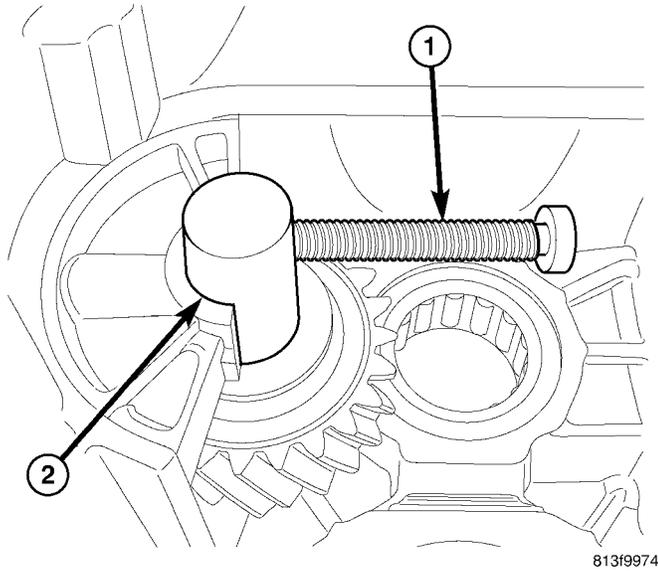

Fig. 45 PULL IDLER SHAFT
(2) Thread idler gear shaft bolt (1) (Fig. 45) into the shaft (2). Then work shaft (2) out of the idler gear.